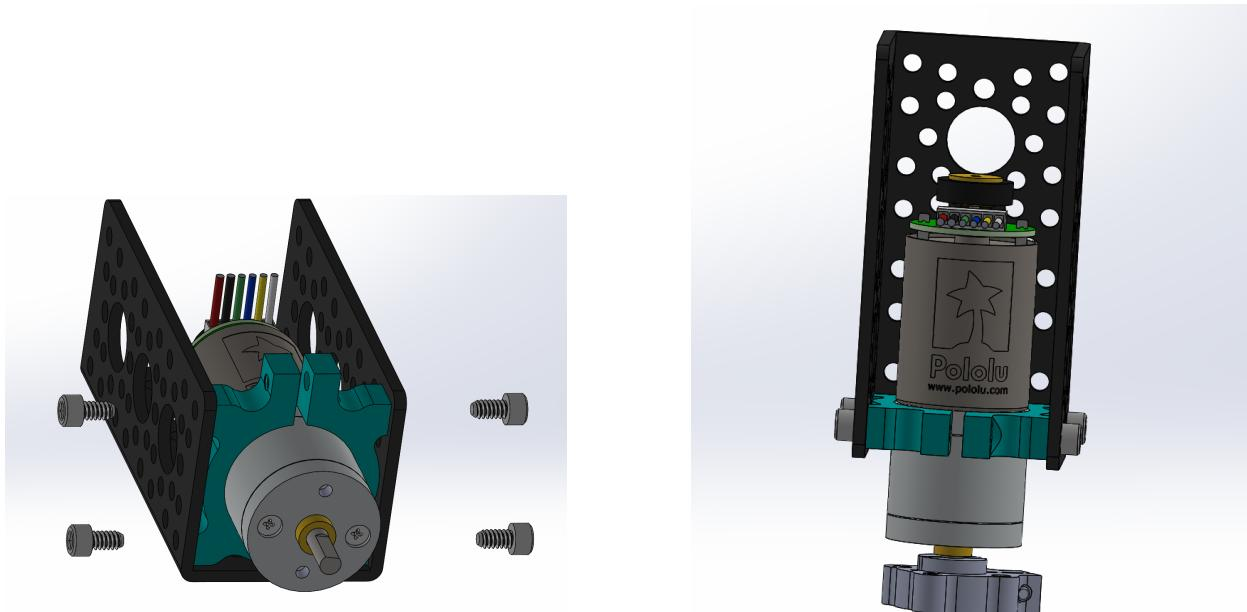

Figure 3: Wheel Step 1
1. **Motor Mount:** Start by attaching the motor **E5** into the 3 inch channel **S2** using clamping mount **S25** and screws **B1** as shown in Figure 3. Make sure to slide the motor all the way to the top of the gearbox in the clamping hub (exactly as shown in Figure 3).